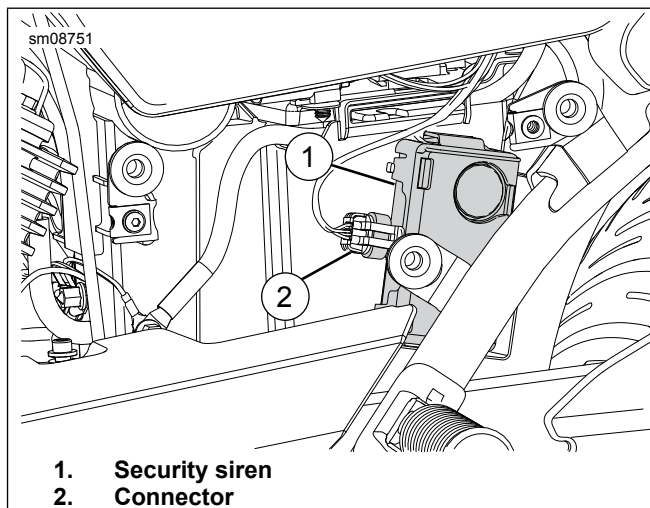

Figure 2. Street
4. See Figure 2. Install security siren (1).
5. Connect connector (2).